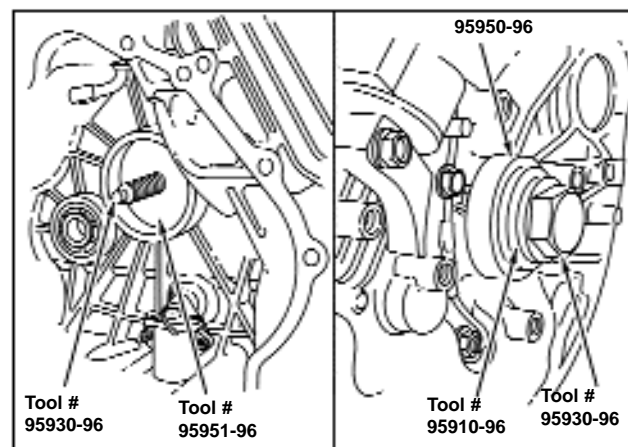

Figure 134- Installing Bearing - Mag. Side
5. Insert screw through pilot and thread into support. Tighten screw until ball bearing is seated, Figure 134.